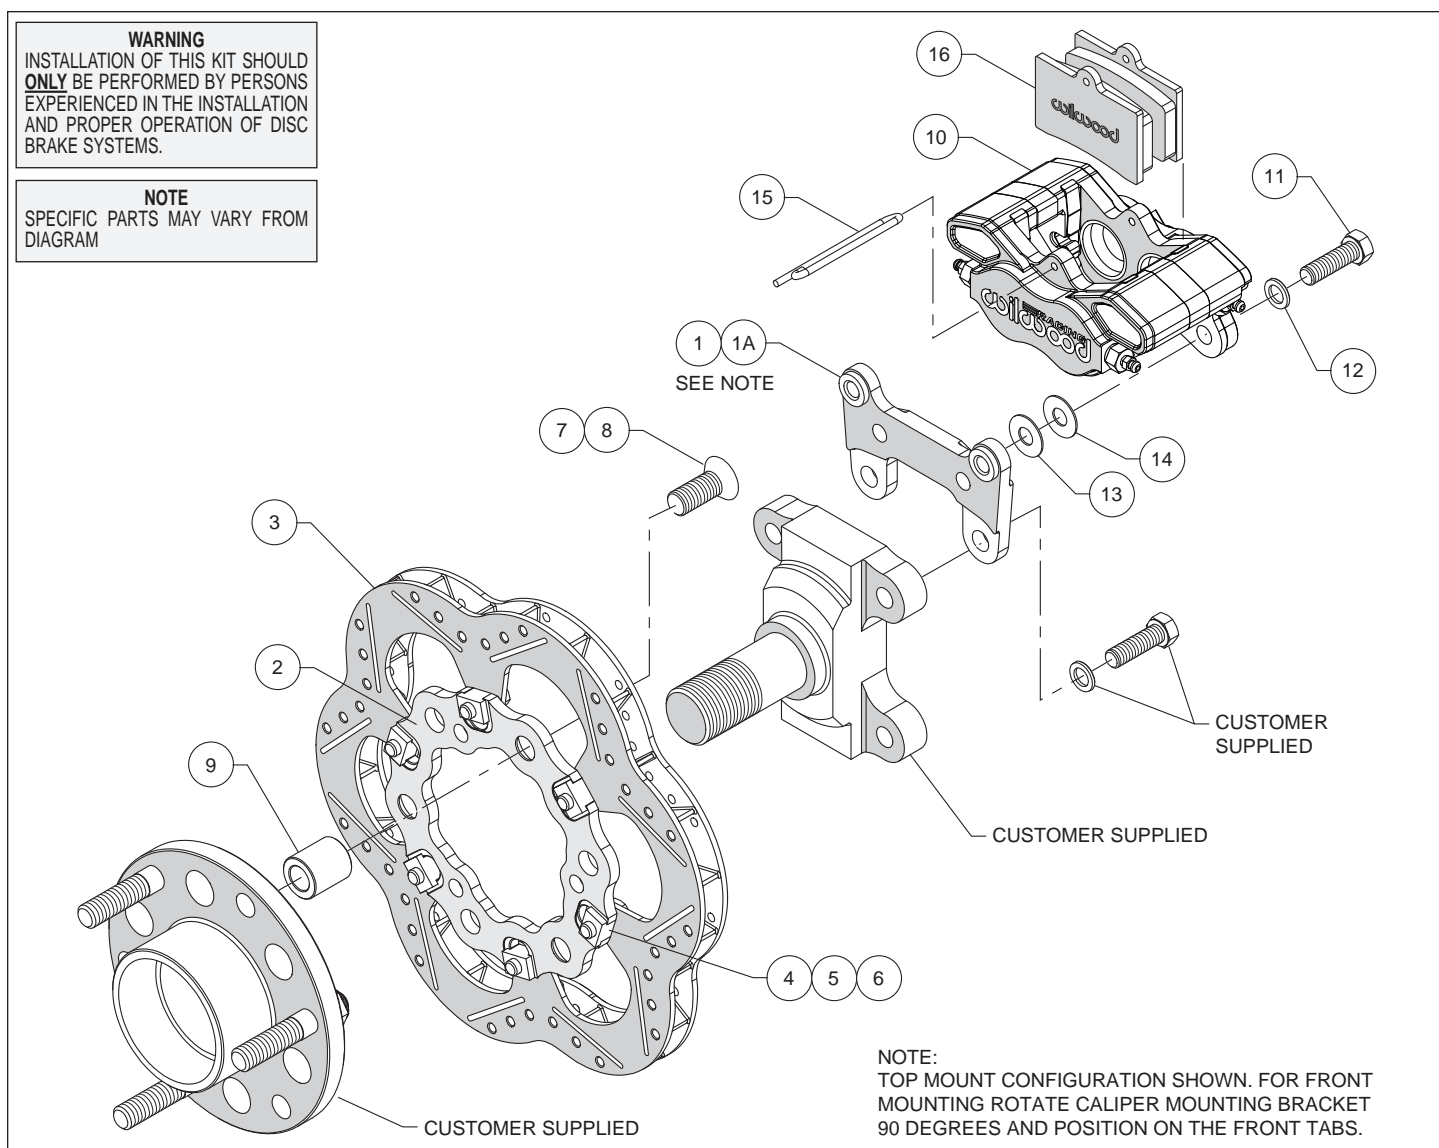

Figure 1. Typical Installation Configuration
Assembly Instructions (numbers in parenthesis refer to the parts list and Figure 1 on the preceding pages): **CAUTION:** *All mounting bolts must fully engage insert nuts.* Be sure to check that all bolts are either flush or protruding through flanged side of insert nut after shimming while making sure all other mounting bolts fully engage threaded holes, where applicable.
- Install the caliper mounting bracket (1 for front mount) or (1a for top mount) onto the inboard side of the spindle mounting tabs using customer supplied bolts and washers by first coating bolt threads with red *Loctite*® 271 and sliding bolt through washer, then through caliper mounting bracket and thread into the tabs on spindle as shown in Figure 1. The bracket must tighten squarely against the inboard side of the spindle mounting tabs. Inspect for interference from casting irregularities, machining ridges, burrs, etc. Torque bolts to specification.
- With the T-notches of the rotor adapter (2) facing away from the rotor (3), attach adapter to rotor using bolts (4), washers (5), and t-nuts (6) as shown in Figure 1. Finger tighten. After all t-nuts have been installed, torque bolts in an alternating sequence to 220 ± 20 **in-lbs** (~19 ± 1 ft-lb). Please refer to Wilwood's data sheet DS-669 (available at www.wilwood.com/Pdf/DataSheets/ds669.pdf) for complete t-nut bolt kit installation instructions.